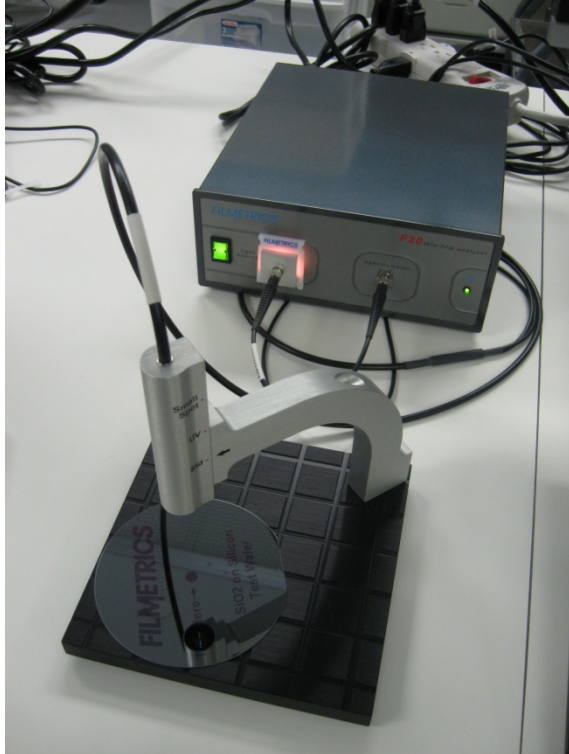

Figure 2: F20 and sample stage.
- b) Turn on the light source (green switch in Figure 2).
- c) Turn off the light source (green switch in Figure 2).